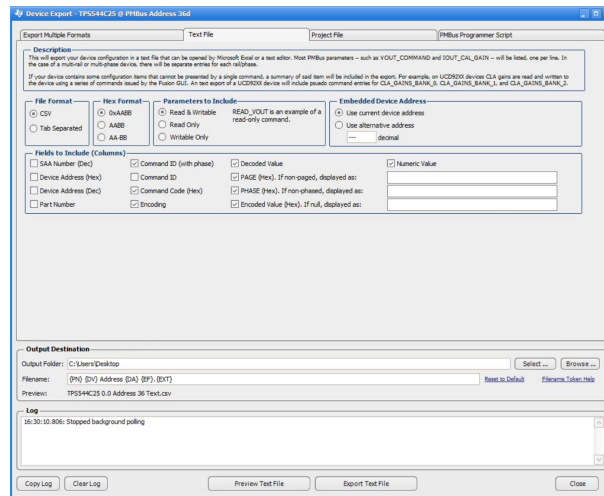

Figure 37. Exporting A Text File
1. Click File > Export > Text File and choose the file format (shown in Figure 37).